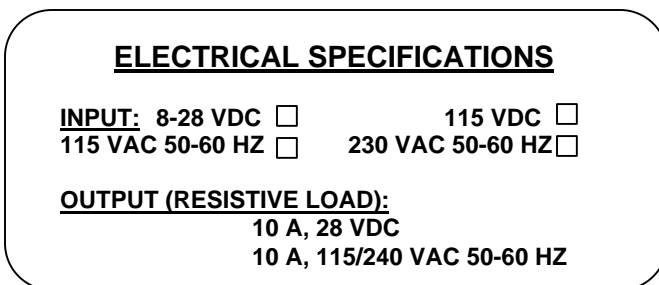

FIG. 1: ELECTRICAL SPECIFICATION PLATE
Before installation carefully check the "Electrical Specifications" plate (See Fig. 1) on each instrument against the receiving paperwork and the intended application for the correct input and output. Make certain that the enclosure (NEMA 4 or NEMA 7) is appropriate for the area in which it is to be installed. Inspect for shipping damage and, if damaged, report it immediately. Verify when the unit is unpacked and in a vertical position that the pointer is on 0.
2. **L.E.D.'S DO NOT COME ON WHEN POWER IS TURNED ON.** Check wiring diagram (Fig. 1) and wiring to make certain that all connections are properly and securely made. Also check to make certain that the proper power input is being provided.